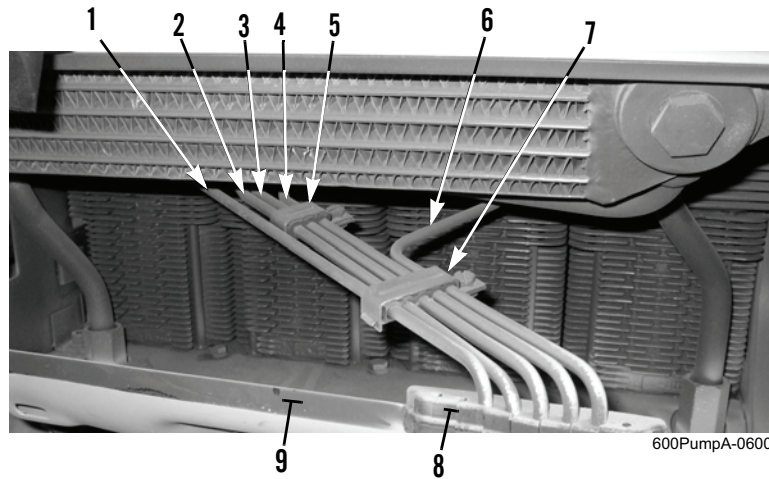

Figure 5. Pipe Clamps and Injector Lines.
7. Install rubber (Figure 5, Item 8) to secure injector lines (Figure 5, Items 1, 2, 3, 4, and 6) to cover (Figure 5, Item 9).
8. Install pipe clamps (Figure 5, Items 5 and 7) on injector lines (Figure 5, Items 1, 2, 3, 4, and 6).